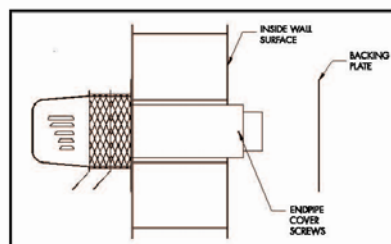

Figure 4
- a. One Piece Backing Plate Installation (3", 6", 8" Models) Remove the end pipe cover screws on the sides of the outside pipe and remove end pipe cover. Then mount the backing plate over the outer pipe and route the flexible conduit and pressure switch tube (if applicable) through the holes provided in the backing plate. Fasten the backing plate to the inside wall with appropriate fasteners. (See Figure 4) Re-install the end pipe cover and screws.